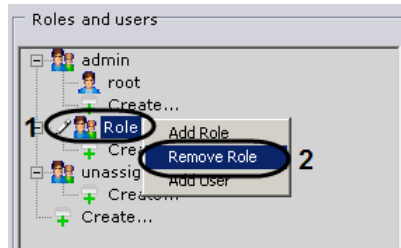

Fig. 6.12—3 Deleting a role
1. In the user tree, select the role that you want to delete (Fig. 6.12—3, 1).
3. Select **Delete role** (see Fig. 6.12—3, 2).